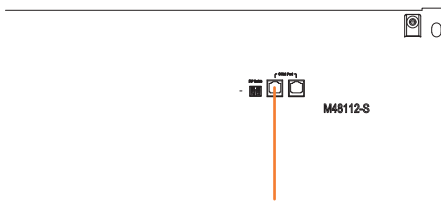

Figure 4-10 Terminal resistance in the top battery of each cluster
**B.** Take the terminal resistance in the HV900112 parts list and insert it into the top battery COM port of each battery cluster. You can see the detailed information in Figure 4-10.